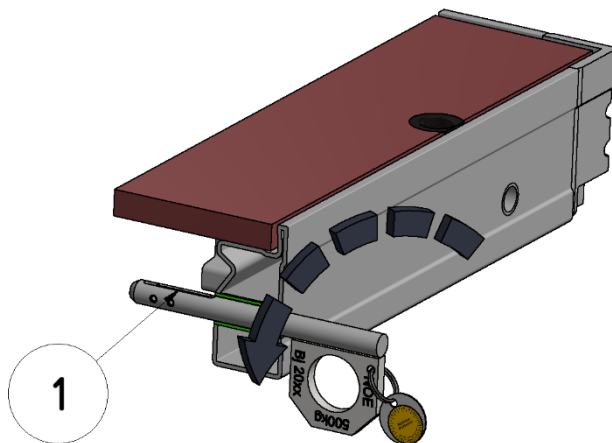

Figure 6
Rotate the lifting pins so the hook eye points downwards in accordance with Fig. 6. The trap (1) Fig. 6 automatically drops down into the lifting pin.